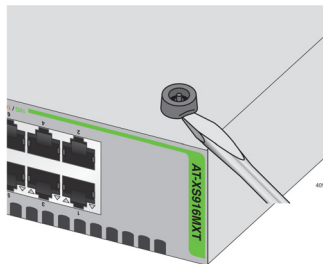

Figure 16. Removing the Rubber Feet
3. Using a flat-head screwdriver, remove the rubber feet from the bottom of the switch. See Figure 16.